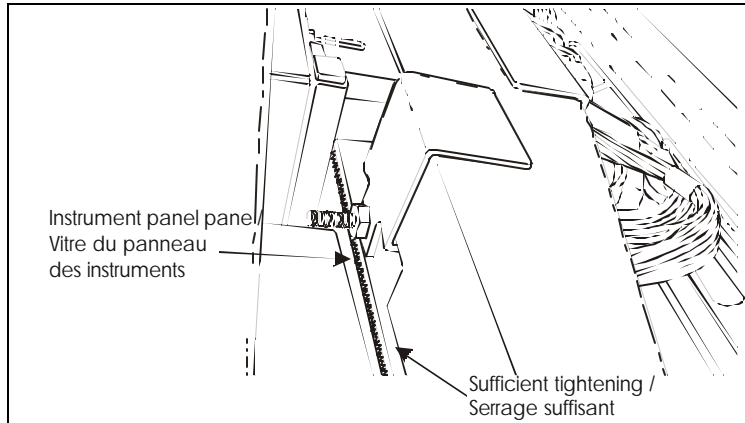

FIGURE 3
Note : The instrument panel supports may be lowered from 1mm to 2mm maximum if, after tightening, the pane does not clear the housing (figure 3).
12. Bring back the top of the instrument cluster, insert the screws and tighten the nuts until the instrument cluster rests against the housing (figure 3).